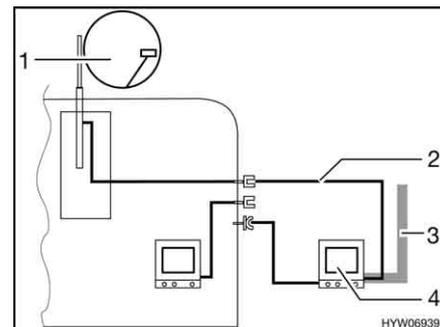

Fig. 156 TV in the awning
- TV inside the awning (Fig. 156,4): Connection to roof antenna (Fig. 156,1) with connection cable (Fig. 156,2)
- TV inside the awning (Fig. 156,4): Connection to external antenna (Fig. 156,3)